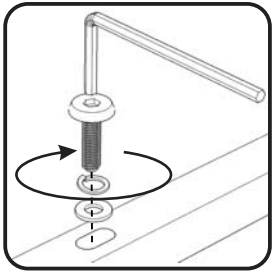

Figure 3
Attach Side Panel (D) to unit with Head Cap Bolts, Spring Washers and Flat Washers, tightening bolts only halfway. (See Figure3)